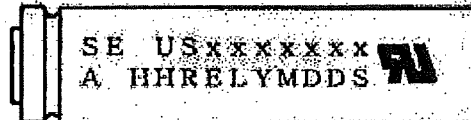

Fig.1
5.2 Trade Mark (Fig.1 : US x x x x x) 登録機種名 (Fig.1 : US x x x x x)
5.3 Plant (Fig.1 : A for plant code) 製造所 (Fig.1 右記図 : A)
5.4 Specification (Fig.1 : HH for Cell Type) 仕様 (Fig.1 : HH)
5.5 Lot Number (Fig.1 : YMDDS for Manufacturing Date of Cells)
ロット、セル製造年月日 (Fig.1 : YMDDS)
Lot Number (Fig.1 : YMDDS for Manufacturing Date of Cells)
5.6 UL Marking U L マーク (Fig.1 : Recognition Mark)